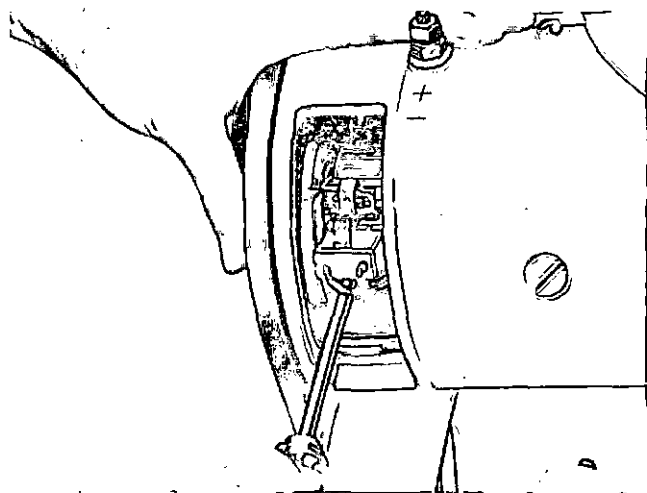

Fig. 5-36, N11308. Checking generator brushes
1. Inspect terminals for corrosion and loose connections, Fig. 5-36, and wiring for frayed insulation. Check mounting bolts for tightness and check belt for alignment, proper tension and wear.